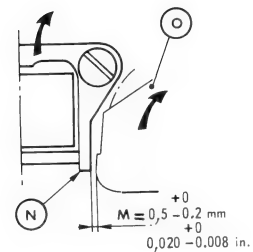

Figure 4.2.2c
- Displace the assembly so as to obtain an air gap M. (See figure 4.2.2c) between N and O.